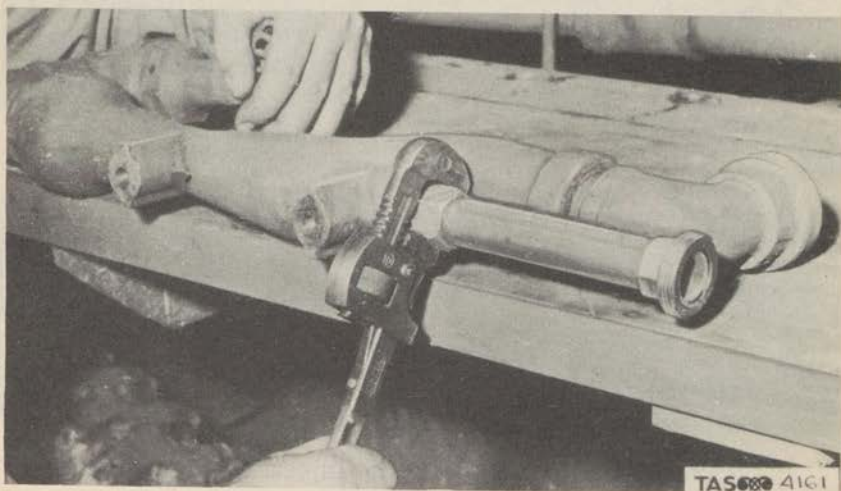

Figure 208. Loosening Injector Jet.
(3) The injector jet may then be removed from the assembly. (Figs. 208 and 209)